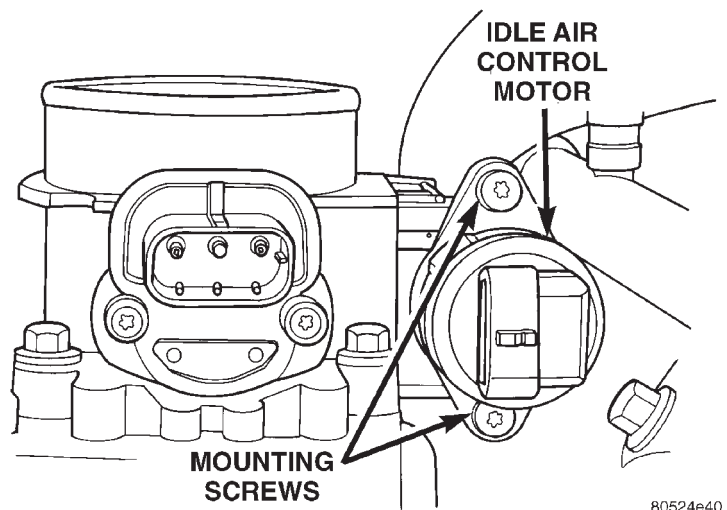

Fig. 70 Mounting Bolts (Screws)—IAC Motor—4.0L Engine
- (1) Remove air cleaner tube at throttle body.
- (2) Disconnect electrical connector from IAC motor.
- (3) Remove two mounting bolts (screws) (Fig. 70).
- (4) Remove IAC motor from throttle body.